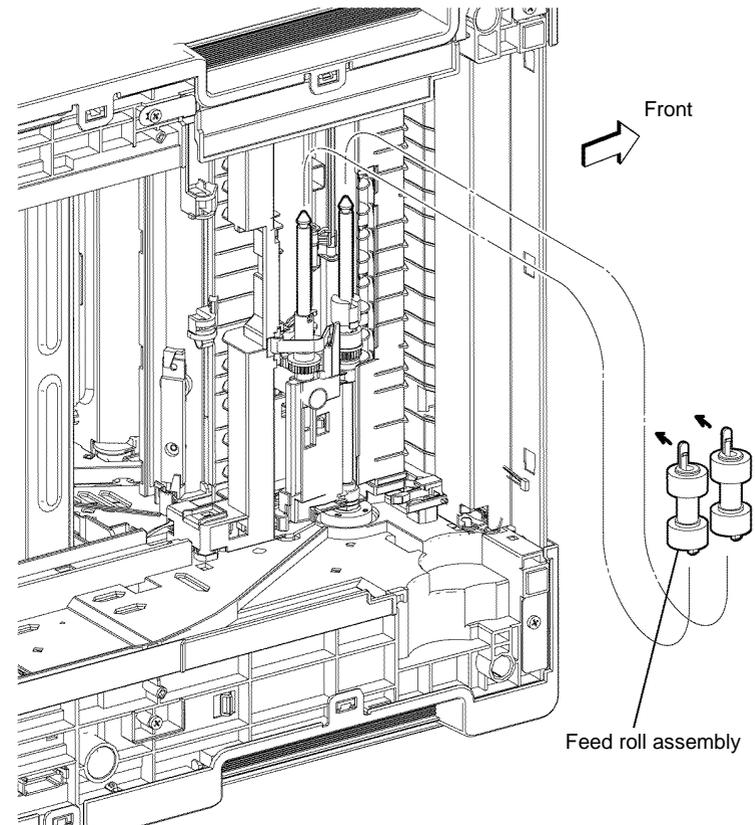

Figure 1 Feed roll assembly removal
5. Remove the feed roll assembly from the bottom of the printer by releasing the hook, Figure 1.